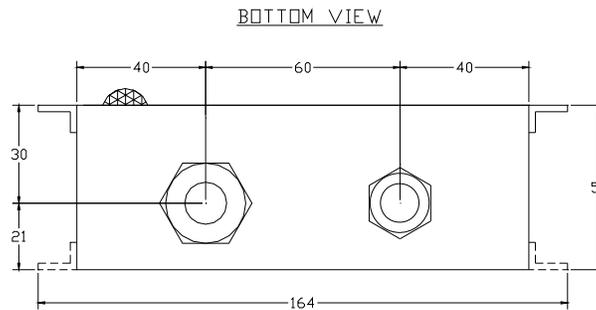
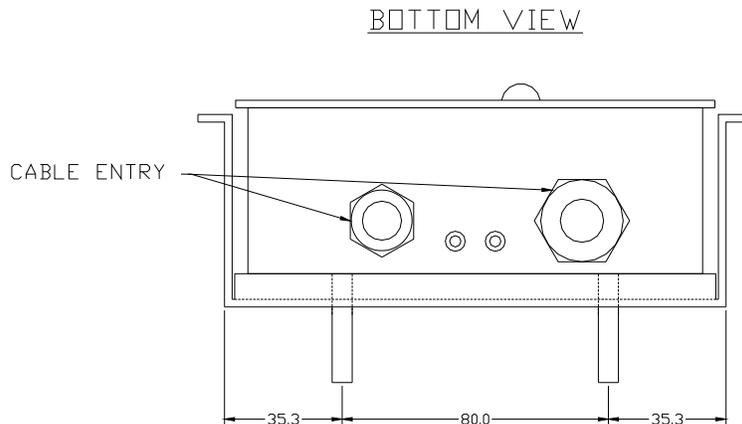

Figure 5-12 - Bottom View of OAU
Figure 5-13 - Bottom View of OAU (Revised Unit)
The original version of the OAU, illustrated in *Figure 5-12 - Bottom View of OAU*, connects via two (2) cable entry glands located at the bottom of the unit. The revised version of the OAU, illustrated in *Figure 5-13 - Bottom View of OAU (Revised Unit)* and *Figure 5-14 - Rear View of OAU (Revised Unit)*, can be connected via two (2) cable entry glands located at the bottom of the unit or, optionally, through 2 cable entry points located at the rear of the unit.